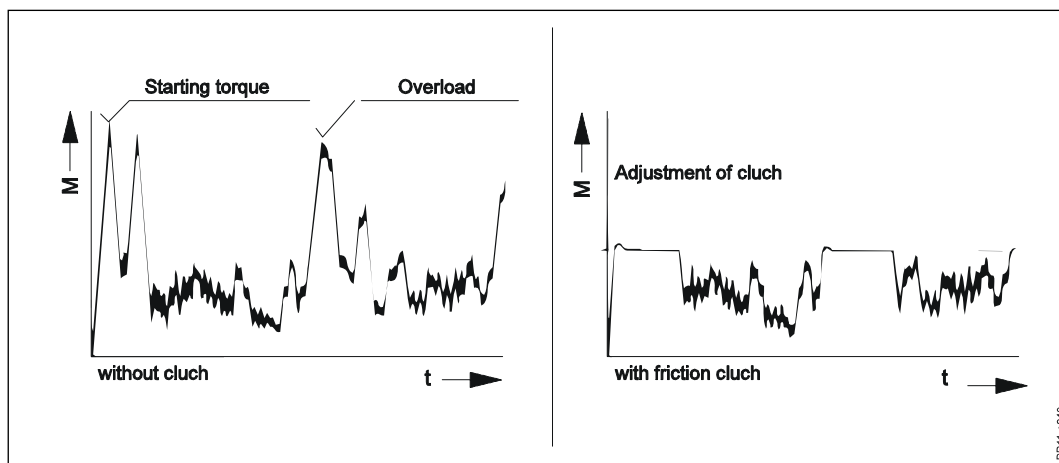

Fig. 5-2
**Fig. 5-2** In order to ensure a long life for your tractor and machine, the machine is delivered with a friction clutch on the PTO drive shaft between the tractor and the machine. The figure illustrates how the clutch protects the transmission against high torque peaks and at the same time is capable of transmitting the torque while it slips. The friction clutch must be maintained at regular intervals. At the same time the clutch must be checked after any long period of standstill. This especially applies after winter storage before the machine is used for the first time in the season. Here the clutch must be loosened and the parts must be turned in relation to each other to ensure that the clutch can release.